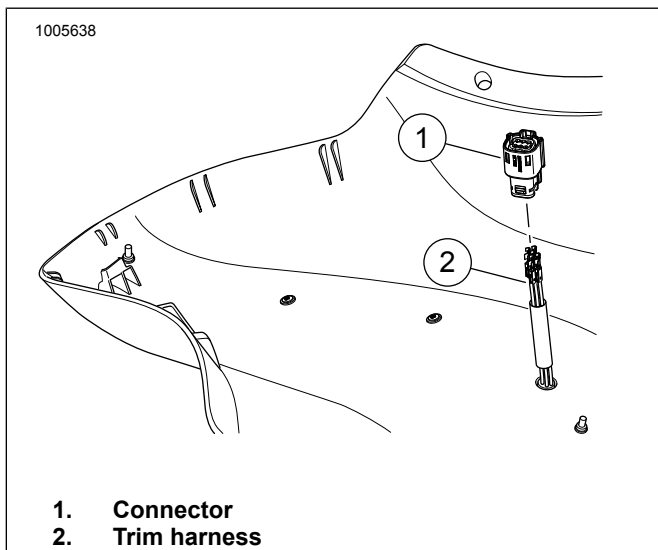

Figure 7. Connector Installation
See Figure 7. Install connector (1) to trim harness (2).